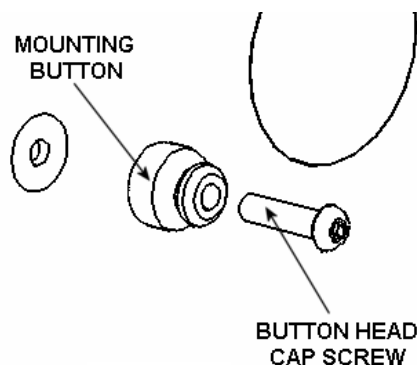
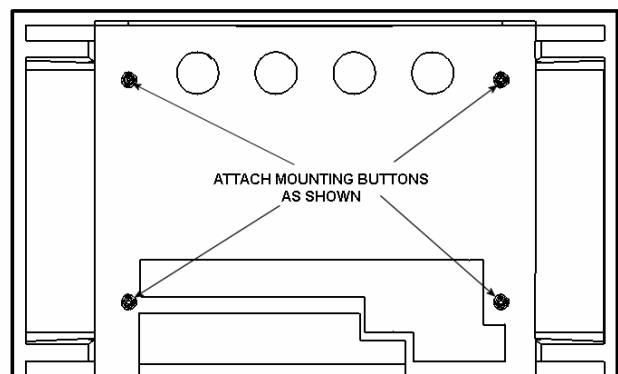

Figure 2
Figure 3
1. Attach mounting buttons to back of display using the M8 x 35mm button head cap screws provided (see Figure 2 and Figure 3).